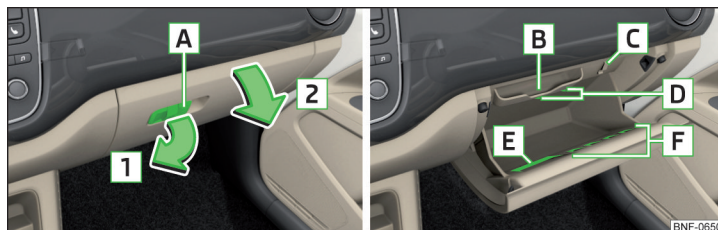

Fig. 69 Open storage compartment / interior of the storage compartment
Storage compartment » Fig. 69
- If there is a folding hook on the handle **A** remove any items hanging from it » Fig. 69,
- Turn the cover in the opposite direction to arrow **2** » Fig. 69 until it audibly clicks into place.